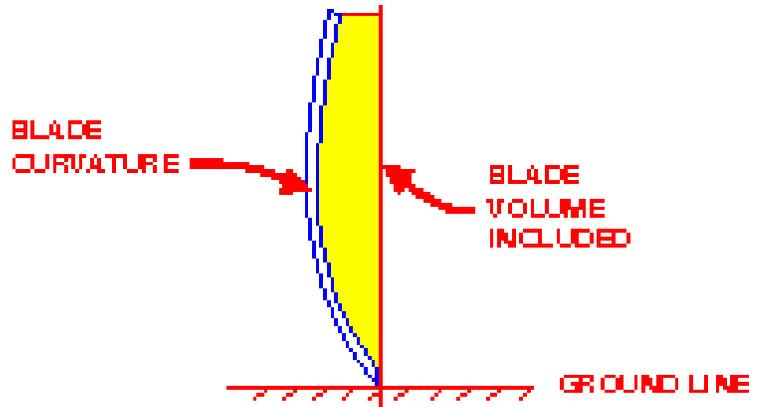

FIG. 1 - BLADE INCLUDED VOLUME
3.3 This recommended practice assumes the blade face to be flat and vertical, and does not consider the blade included volume (Fig.1).